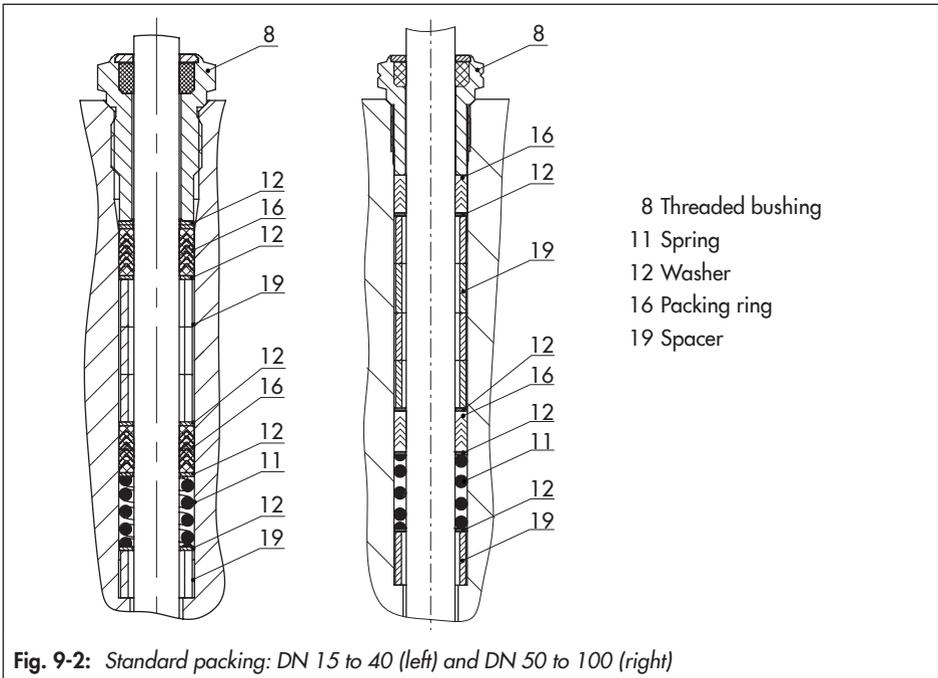

Fig. 9-2: Standard packing: DN 15 to 40 (left) and DN 50 to 100 (right)
12. Carefully slide the packing parts over the plug stem into the packing chamber using a suitable tool. Observe the proper sequence (see Fig. 9-2).
13. Firmly press the plug (5) into the seat (4). Fasten down the bonnet (2) with the top body nuts (14). Tighten the nuts gradually.
13. Firmly press the plug (5) into the seat (4). Fasten down the insulating section (21) with the top body nuts (14). Tighten the nuts gradually in a crisscross pattern. Observe tightening torques.
14. Screw in the threaded bushing (8) and tighten it. Observe tightening torques.
15. Place yoke (3) onto the insulating section (21) and fasten using the castellated nut (92).
16. Loosely screw the lock nut (10) and stem connector nut (9) onto the plug stem.
16. Carefully slide the packing parts over the plug stem into the packing chamber using a suitable tool. Observe the proper sequence (see Fig. 9-2).
17. Firmly press the plug (5) into the seat (4). Fasten down the bonnet (2) with the top body nuts (14). Tighten the nuts gradually in a crisscross pattern. Observe tightening torques.
18. Screw in the threaded bushing (8) and tighten it. Observe tightening torques.
19. Place yoke (3) on the bonnet (2) and fasten using the castellated nut (92).
20. Loosely screw the lock nut (10) and stem connector nut (9) onto the plug stem.